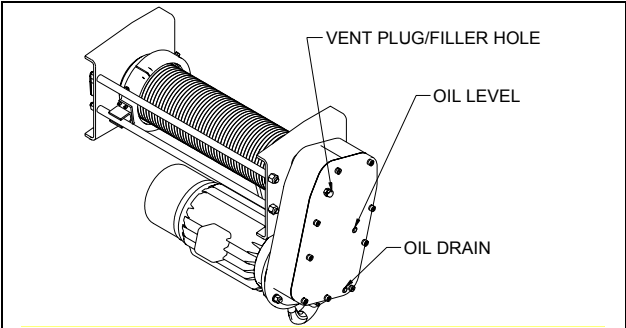

FIGURE 4-1. Location of Oil Plugs.
- e) Check oil level by removing the plug indicated in Figure 4-1. When properly filled, oil should be level with the bottom of the tapped hole. Fill to this level with oil.